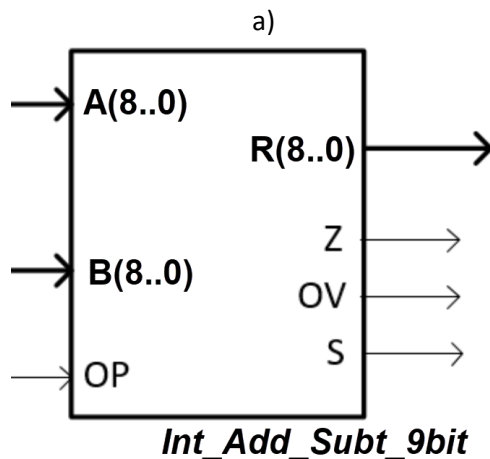

Fig. 1. a) 9-bit arithmetic and logic unit; b) one of its internal chips used for performing arithmetic operations.
1. Analyse the circuit in Fig. 1 using method I to obtain its truth table $Z = f(D1, D0, A, B)$. Firstly, explain your plan and the concepts and procedures involved in the deduction.